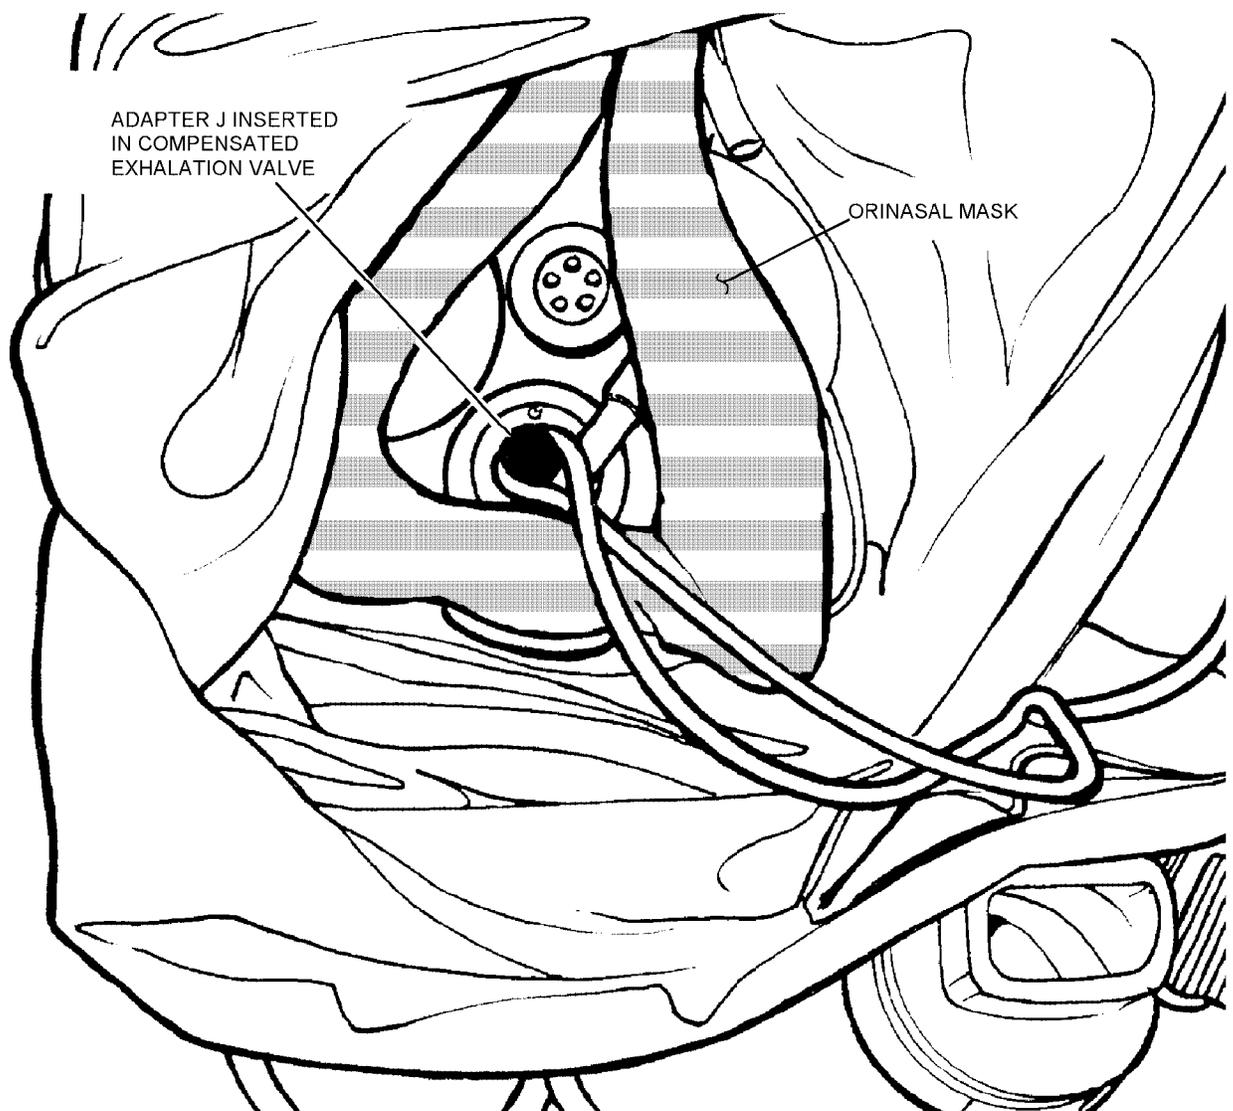

Figure 4-81. Inverted Hood
3. Invert hood and prop open compensated exhalation valve (inside or on a mask) using adapter J (figure 4-81).